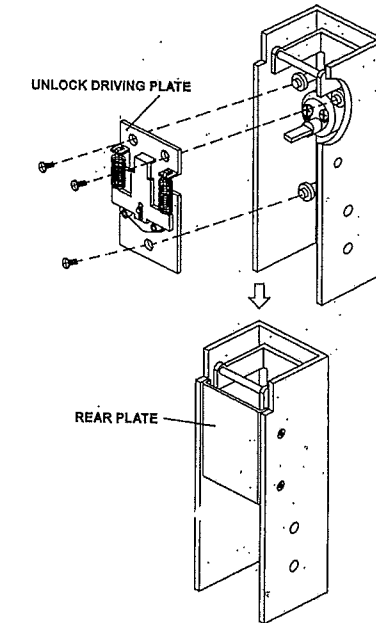

Fig. 9
4. Place and fasten the unlock driving plate and the rear plate back in place. (See Fig. 9)
5. To take out any movement in the mullion, once it's installed, tighten the set screw in the threaded hole with the hex key provided in the Installation Kit. (See Fig. 9)